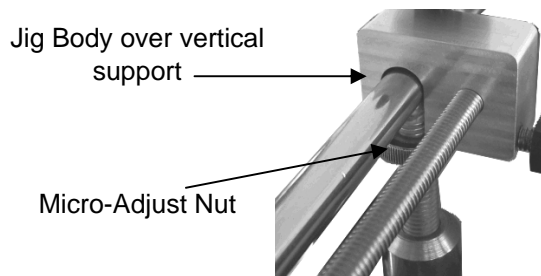

Figure 3
- 2) Slide the Jig Body all the way on until it is over the vertical support.(Fig.3)
- 4) No further adjustments are needed at this point. However, by raising the Micro-Adjust nut and tightening it against the bottom of the jig body, this will offer added stability of the Jig.(Fig.3)